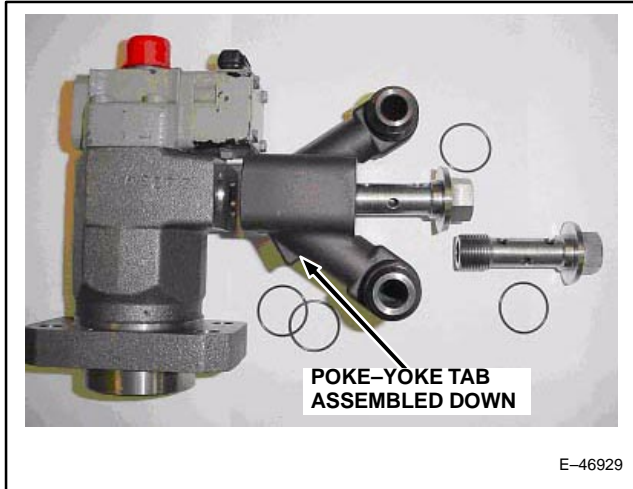

Figure 38. Pump with Poke-Yoke Tab.
- Apply a small quantity of lubricating grease to the four (4) O-ring grooves of the header block.
- Assemble the header block onto the pump with the Poke-Yoke tab facing down (Figure 38). Ensure sure the O-rings seat properly.